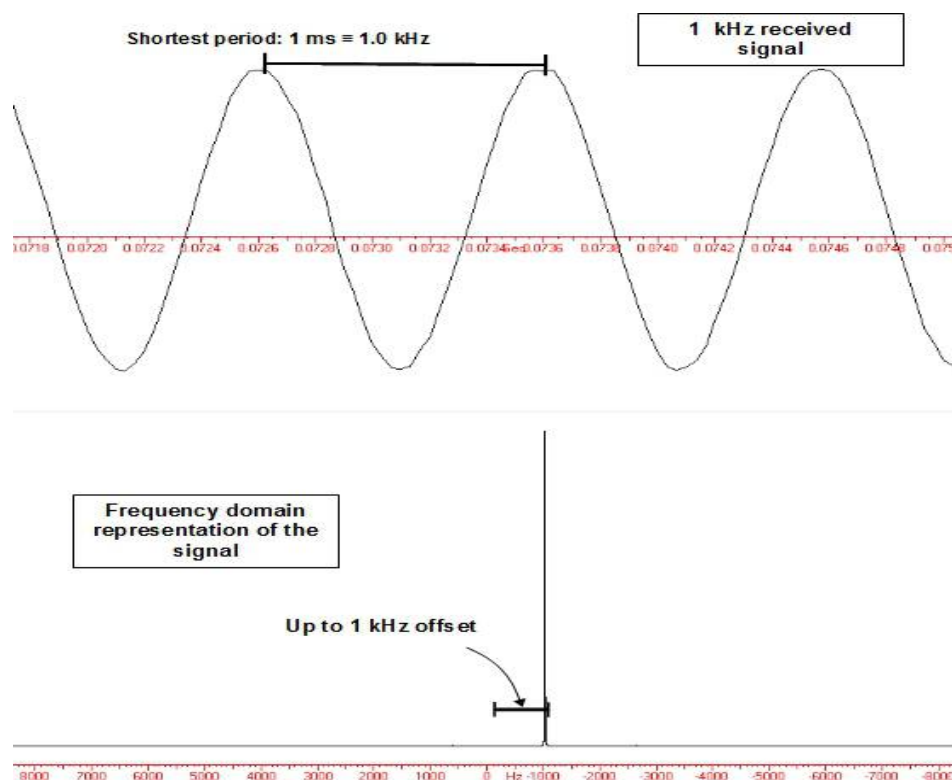

Figure 9: Data received by an iSpin-NMR system performing the Rx test. The input signal is attenuated by over 100 dB and is less than 18 μV peak-to-peak.
11. Open the "rx_test.fid" file using Felix NMR software (available for 32-bit Windows systems, available for download at: http://www.spincore.com/support/RadioProcessor/Felix/Felix_Instructions.shtml) and verify the 1 kHz signal. After doing the FFT, you should see a strong signal at 1 kHz. Figure 9 shows data captured by the iSpin-NMR system with a signal attenuated by over 100 dB. The time domain signal is on top (expanded) and the FFT is shown on the bottom.